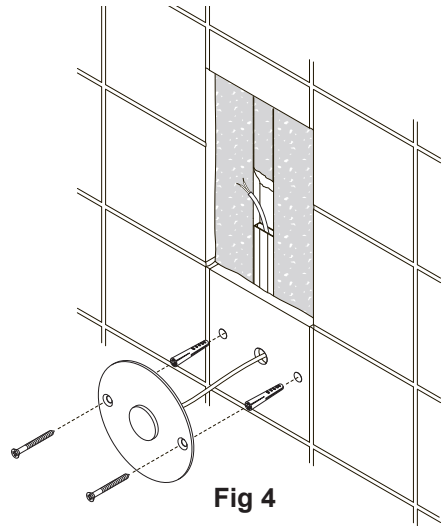
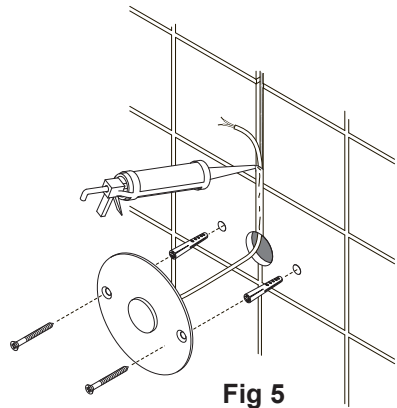
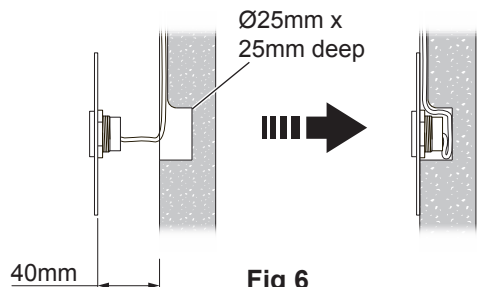

Fig 4
Fig 5
Fig 6
1. Cut a hole and channel in the wall to run the cable from the Sensor to the Sensor Box. Ideally the sensor should sit within a single tile to ensure a good seal. Make sure the channel is positioned correctly and large enough to prevent the cable having a sharp bend. Concealment of the cable in miniature trunking is recommended (**Fig 4**). If the sensor is to be fitted to an existing pretiled area with no duct space in which to run cables, a groove can be cut between tiles using a disc cutter. Set the cable in the groove and cover with silicone sealant (**Fig 5**). For maintenance purposes within pretiled areas, it is recommended to bury some cable slack in a hole behind the sensor (**Fig 6**). If the cable requires lengthening, three "3M™" watertight connectors are supplied to create an extension cable (**see Creating a Sensor Extension Cable**). **Caution!** Do not drill into buried pipes or cables.